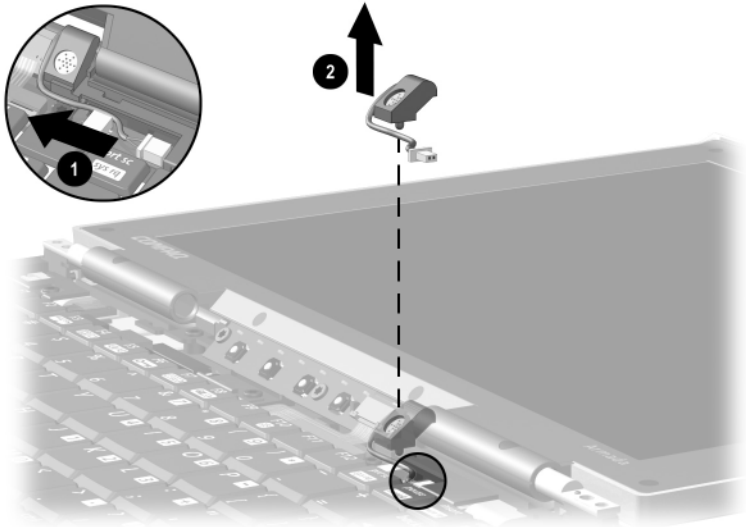

Figure 5-6. Removing the Microphone
3. Disconnect the microphone cable ❶ from the system board (Figure 5-6).
4. Remove the microphone ❷ from the top cover.